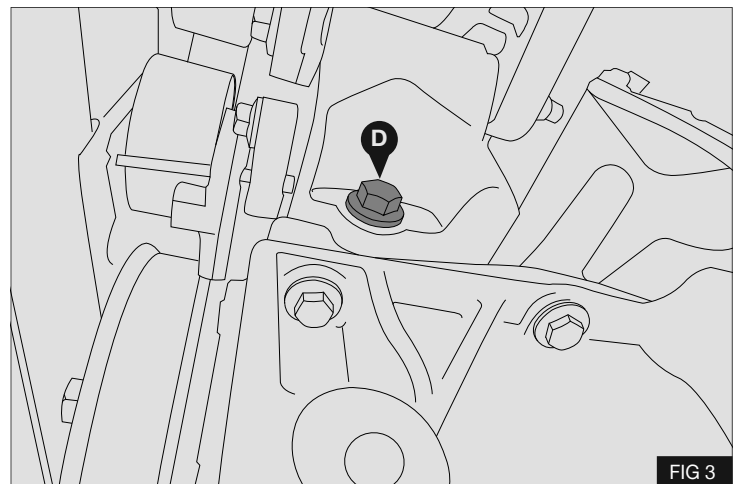

FIG 3
4. Remove and discard original fastener (D) - Fig 3